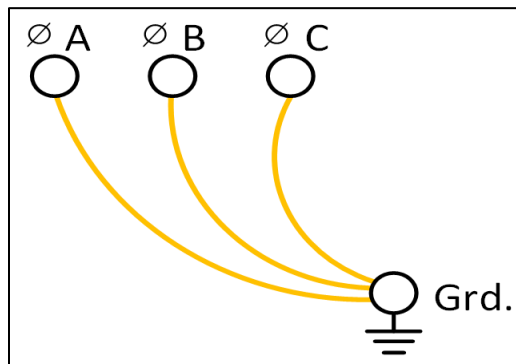

Figure 4 – “Phase-to-Ground” (Parallel) Grounding
- 8.23.3 Application of “Phase-to-Ground” (Parallel) Grounding (Reference Figure 4):